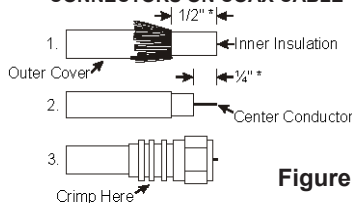

Figure 5
STEP 4. Install connectors on download and set 2 cable as shown in Figure 5. Attach download cable to jack on wall plate/power supply marked antenna as shown in Figure 4. Attach cable going to set 2 outlet to jack on power supply marked SET 2. Attach cable coming from cable input to jack on power supply marked CABLE.